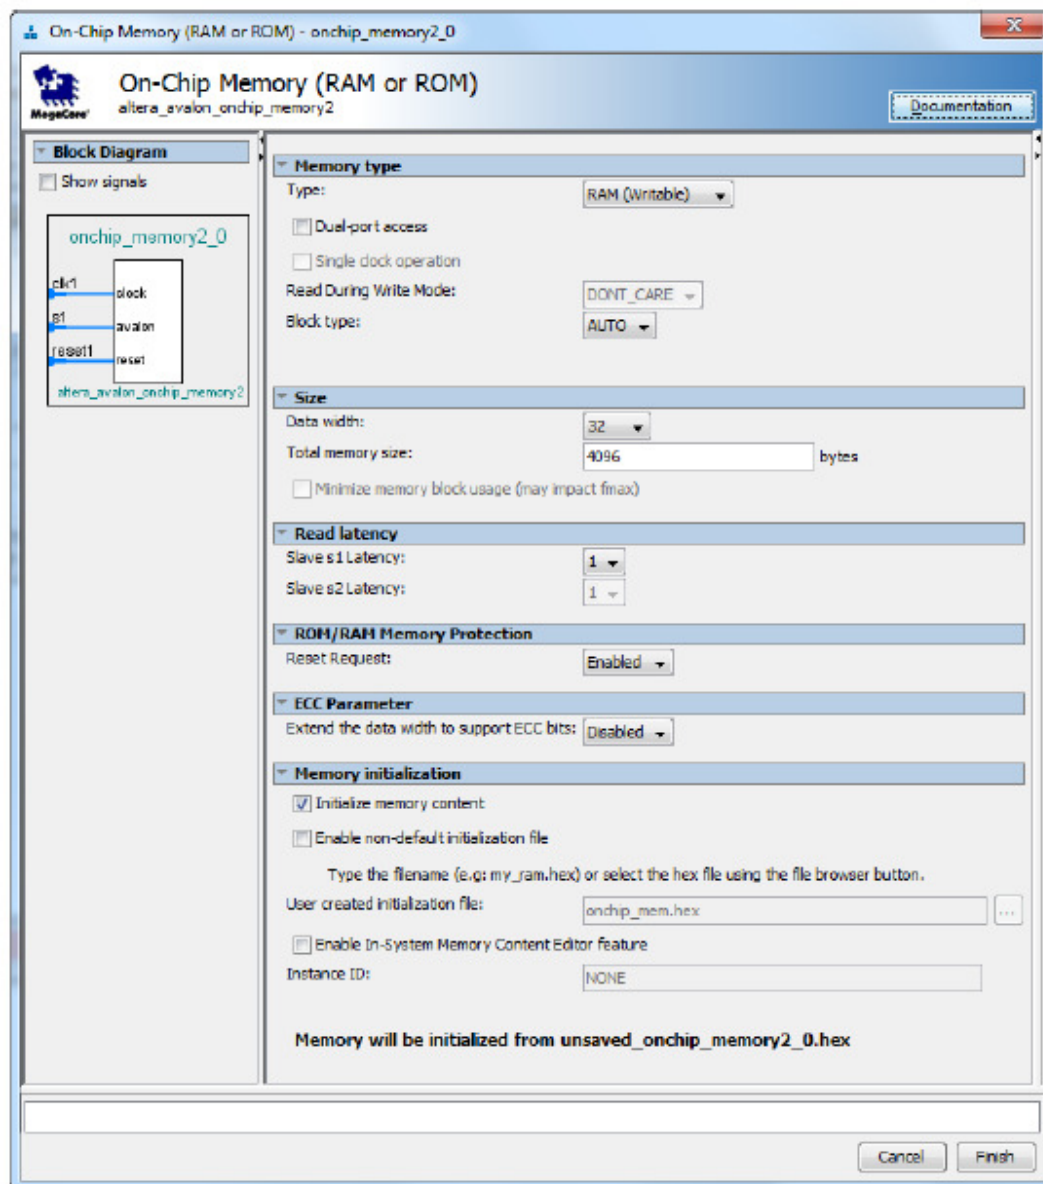

Figure 7 Define the on chip memory
- In the On-Chip Memory Configuration Wizard window, shown in Figure 7, ensure that the **Data width** is set to 32 bits and the **Total memory size** to 4K bytes (4096 bytes)